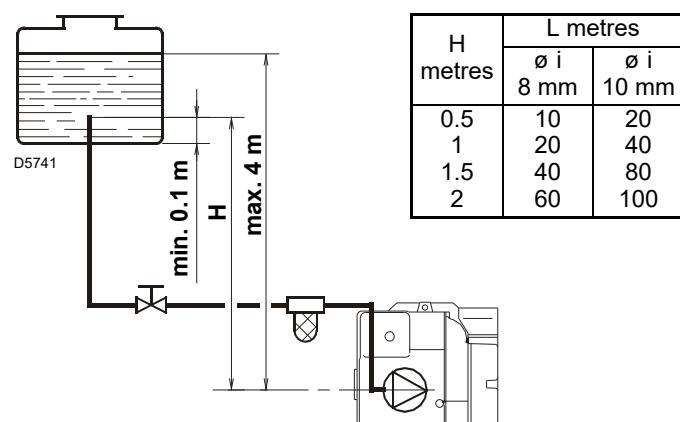
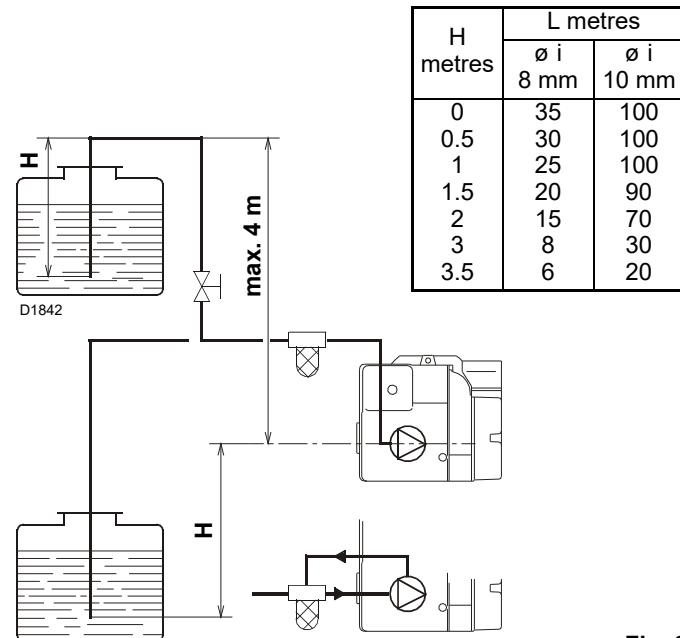
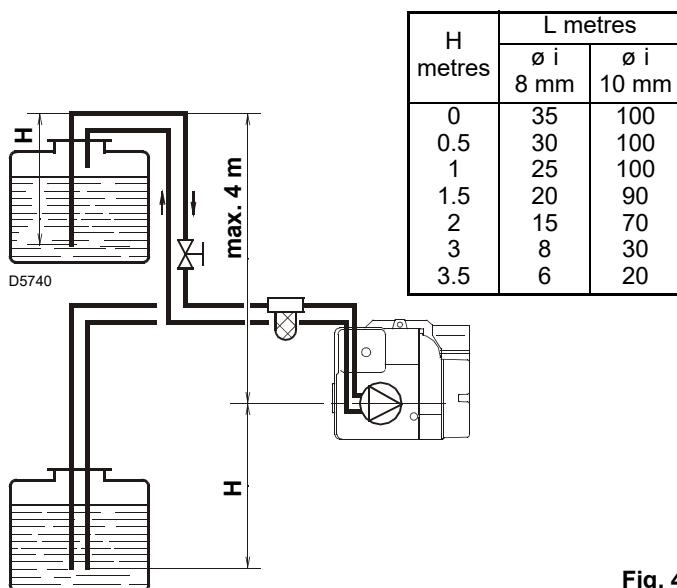
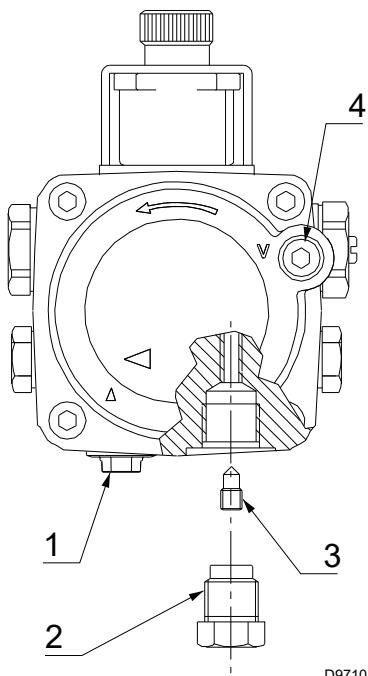

Fig. 2
Fig. 3
Fig. 4
Fig. 5
- Only necessary with one-pipe systems (Fig. 2). In the system of Fig. 2, just loosen the connection of the vacuometer 4) (Fig. 5) and wait for the fuel to come out.
- In the systems of Fig. 3 and Fig. 4, the air is expelled automatically following burner start-up.
Key (Fig. 2, Fig. 3 and Fig. 4)
The pump (Fig. 5) is suitable for two-pipe operation, except for the pump code 20034559.
Key (Fig. 5)
The oil supply (Suction 1) (Fig. 5) blanking plug is made from plastic material. Once removed this should be discarded and not reused under any circumstances.